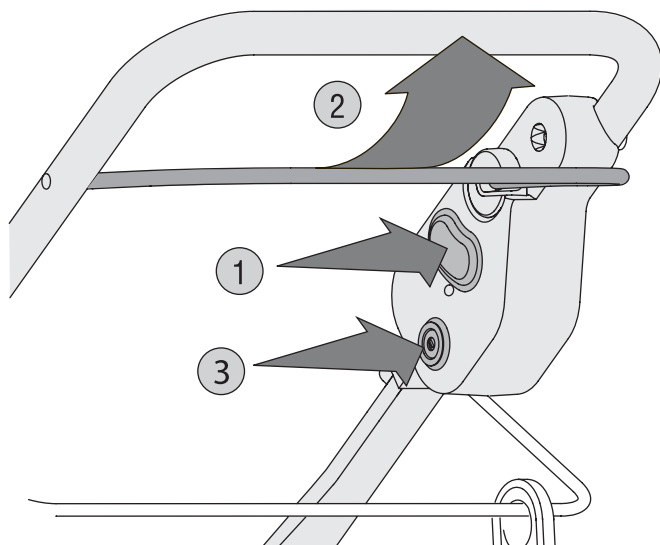

Fig. 6
4. Depress the (red) starter button and hold it in (Fig. 6, no. 1).
5. While holding the starter button in, pivot the bail upward against the handle bar (Fig. 6, no. 2) to start the motor and engage the tines.
2. Press the overload protection switch inward to reset (Fig. 6, no. 3).